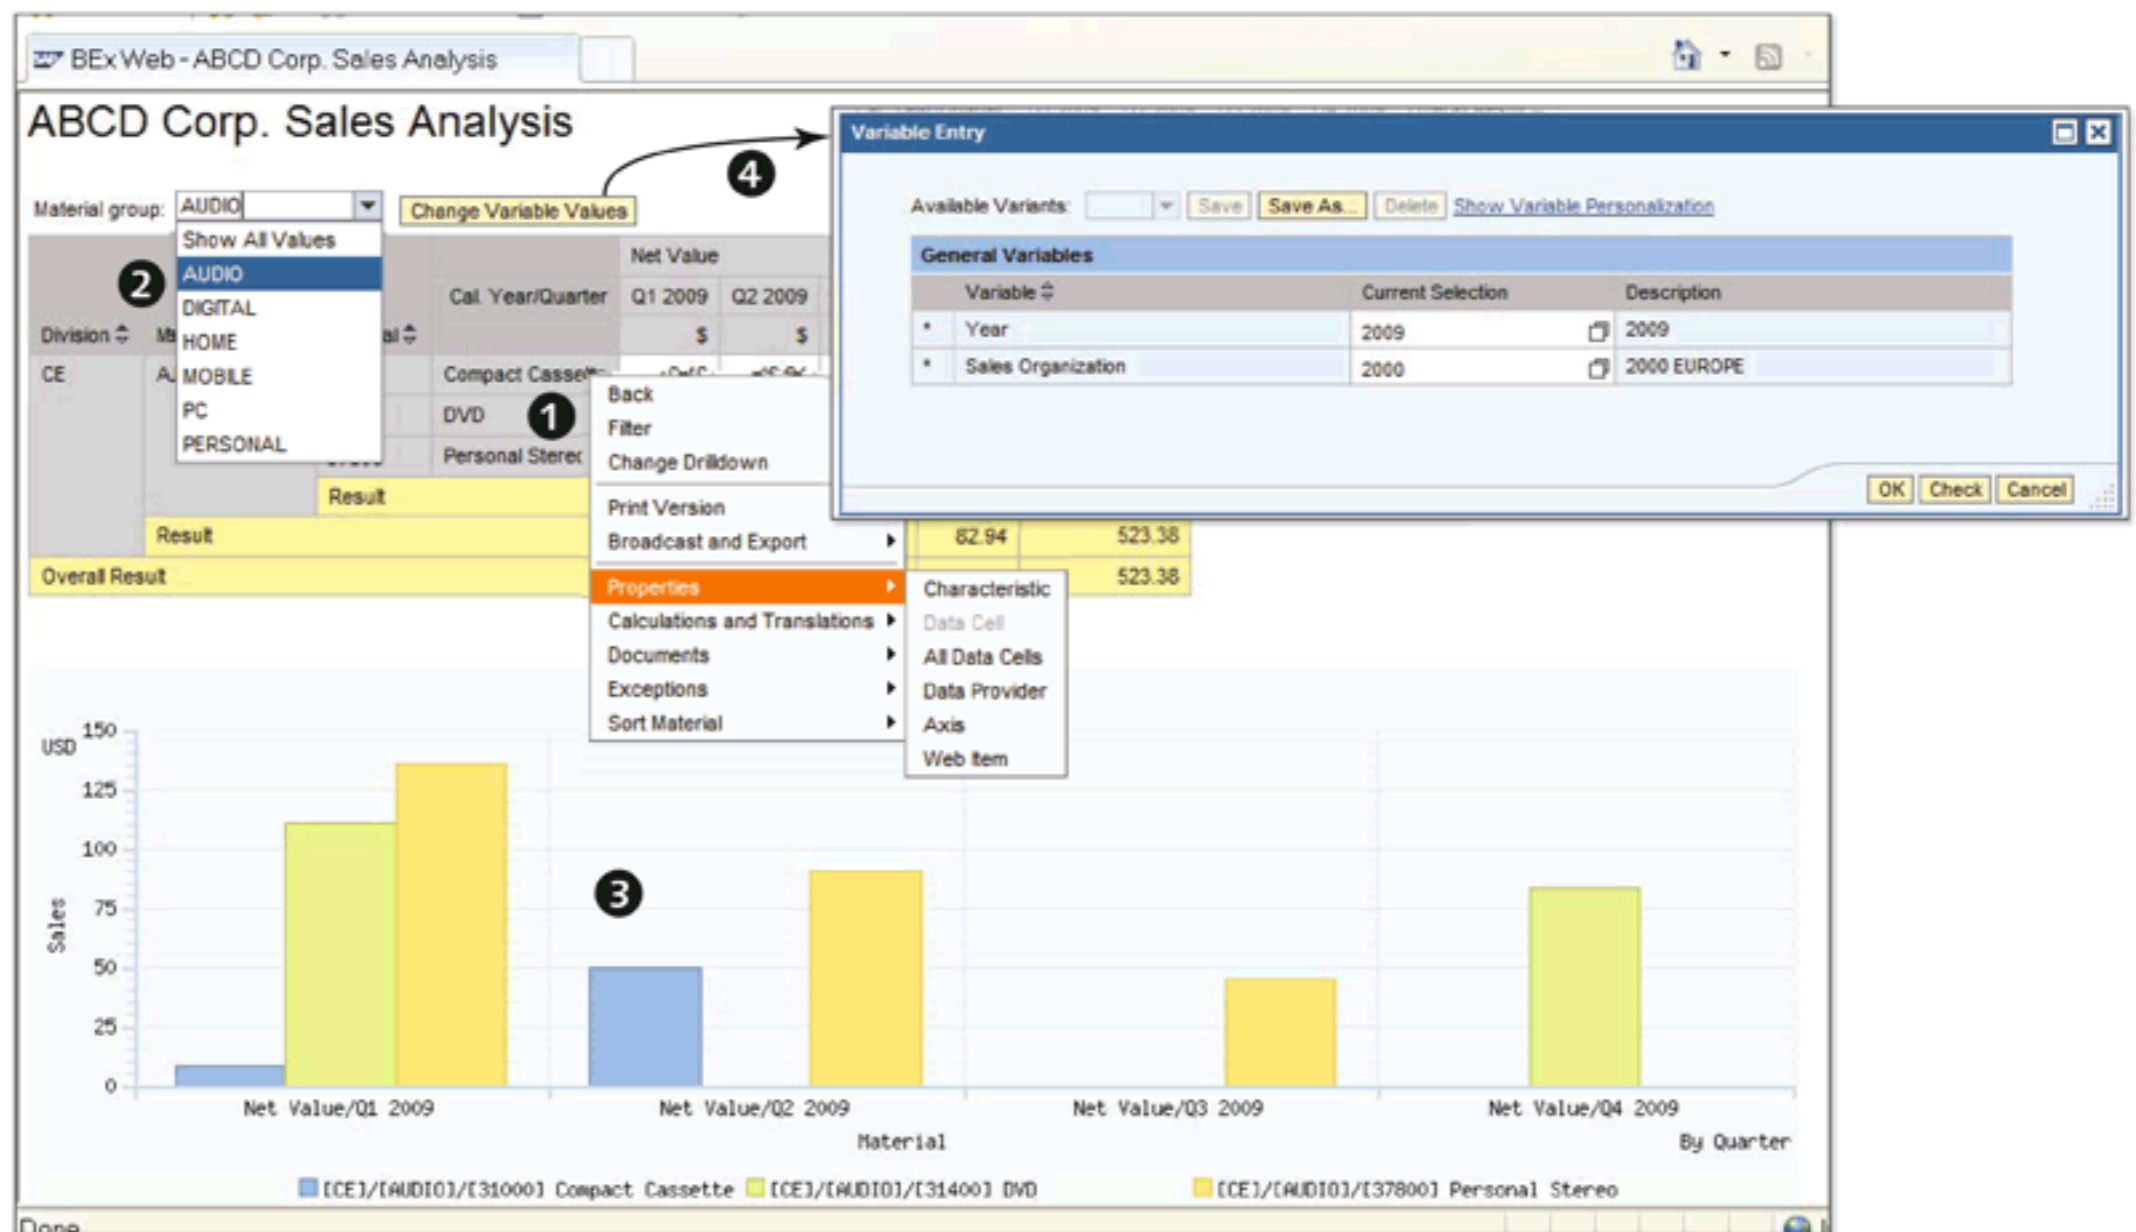

Figure 11.20 Perform Analysis in the Web Application
The resulting web application is displayed in the web browser, as shown in Figure 11.20.
This web application, ABCD Corp. Sales Analysis, displays quarterly sales by material in a tabular format, and the different BEx navigation options are visible in the context menu for this web item (1 of Figure 11.20). A MATERIAL GROUP dropdown is available to filter the results of the web application (2).